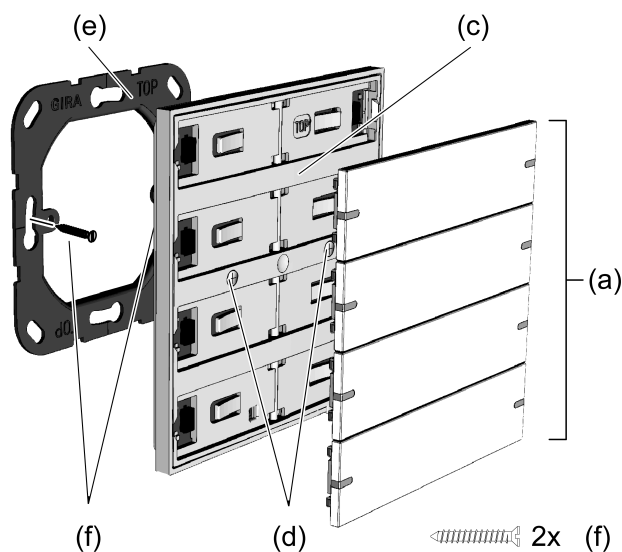
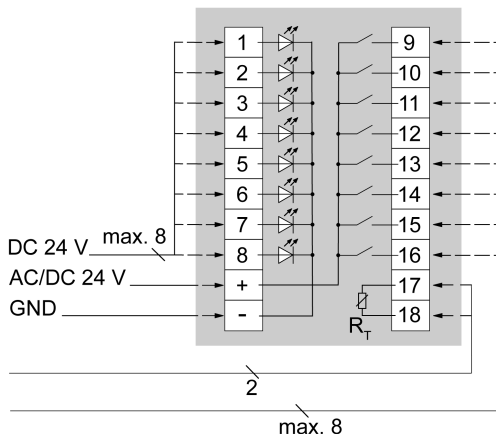

Figure 2: Fitting the device
Figure 3: Connection of 4-gang push-button sensor
Exploded view (Figure 2)
Mounting and connecting the device (Figure 2), (Figure 3)
- Connecting the push-button sensor (c) according to (Figure 3)